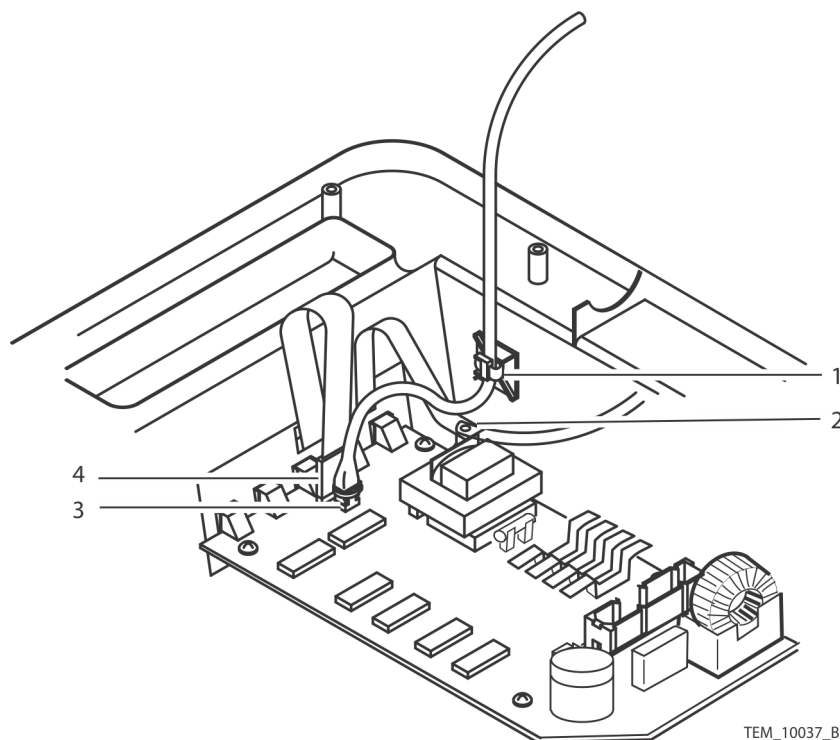

Figure 5-10. Cable Disconnect
9. Cut the cable tie (Figure 5-10, item 1).
10. Remove the ground screw (Figure 5-10, item 2).
11. Cut the cable tie holding the thermistor cable to the connector (Figure 5-10, item 3).
12. Disconnect the thermistor cable connector (Figure 5-10, item 3).
13. Disconnect the ribbon cable connector (Figure 5-10, item 4).
Carefully align the lights on the Control PCB with the control panel key pad push buttons. Failure to do so could damage the key pad or the Control PCB lights. See Figure 5-10, items 1-5.